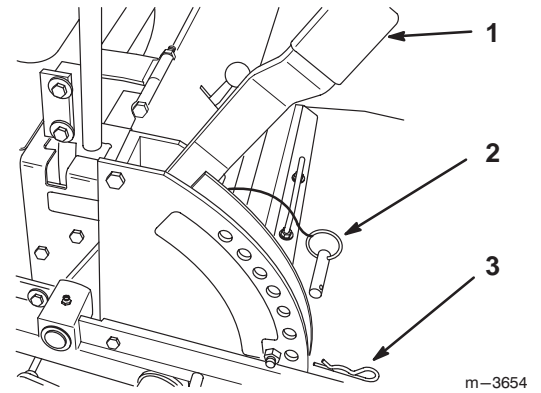

Figure 10
1. Raise the height-of-cut lever to the transport position (also the 4-1/2 inch (114 mm) cutting height position) (Fig. 10).
2. To adjust, remove the hairpin cotter and clevis pin from the height-of-cut bracket (Fig. 10).
3. Select the hole in the height-of-cut bracket corresponding to the height-of-cut desired, and insert the clevis pin (Fig. 10).
4. Secure the clevis pin with the hairpin cotter (Fig. 10).